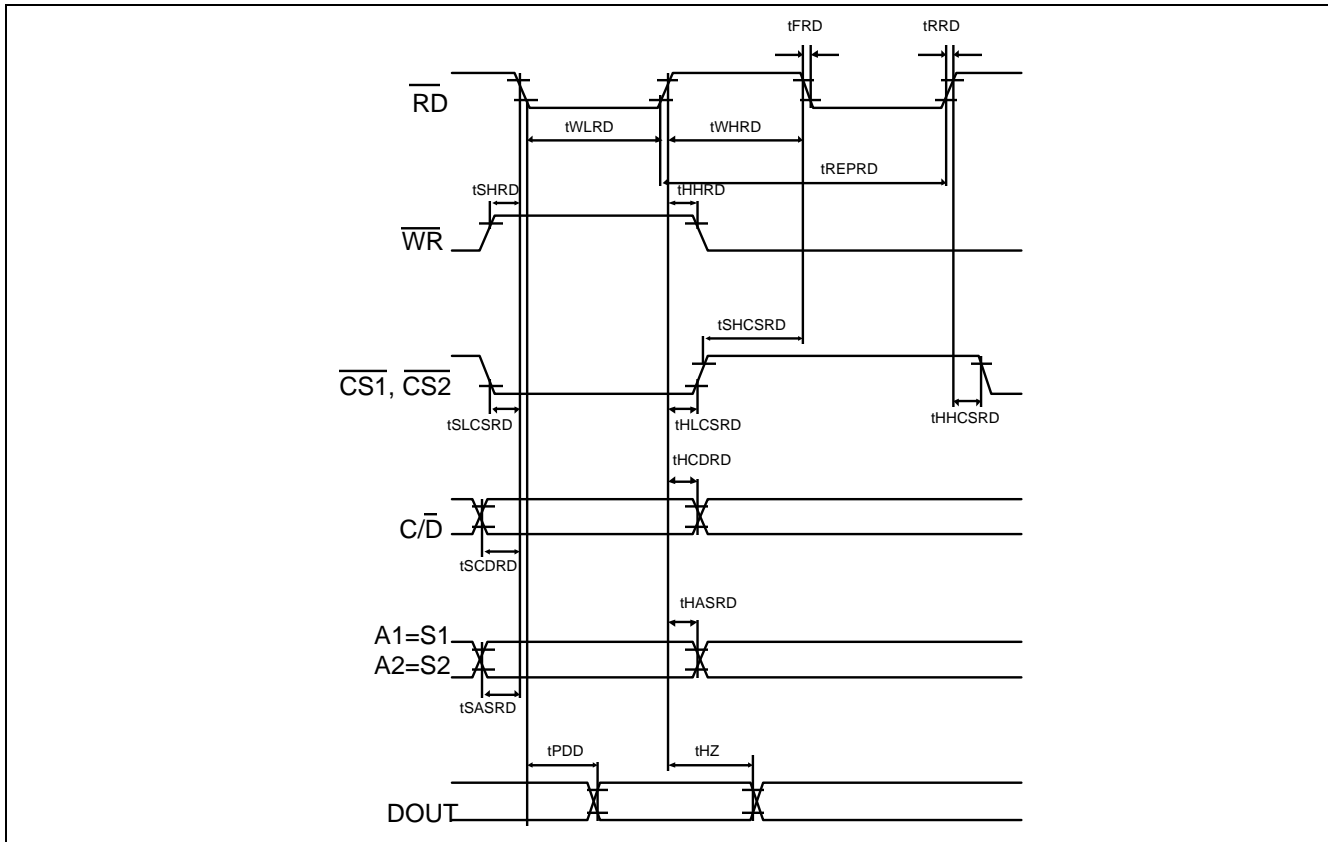

Figure 7 Read Timing
**Read Timing Characteristics (Figure 7):** Operation over recommended temperature and voltage range